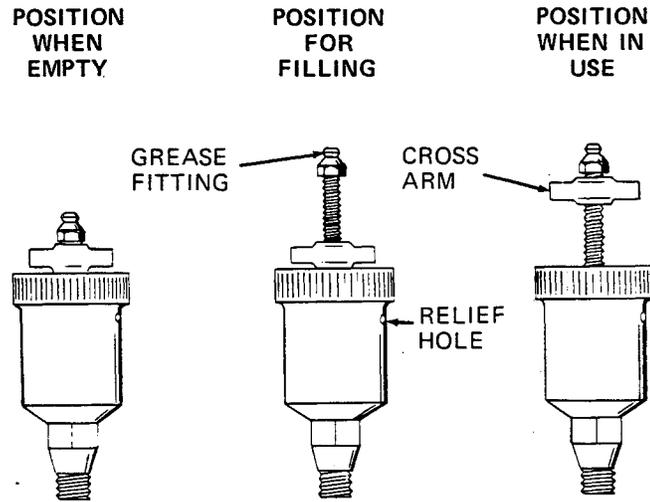

Figure 3. Automatic Lubricating Grease Cup
Before removing the seal assembly, turn the cross arm on the seal grease cup (22) clockwise until it rests against the cover (see figure 3). This will prevent the grease in the cup from escaping after the seal is removed.
Before starting the pump, fill the grease cup through the grease fitting with a good grade of No. 2 pressure gun grease until grease escapes from the relief hole. Turn the grease cup arm counterclockwise until it is at the top of the stem; this will release the spring to apply grease to the seal (see figure 3).